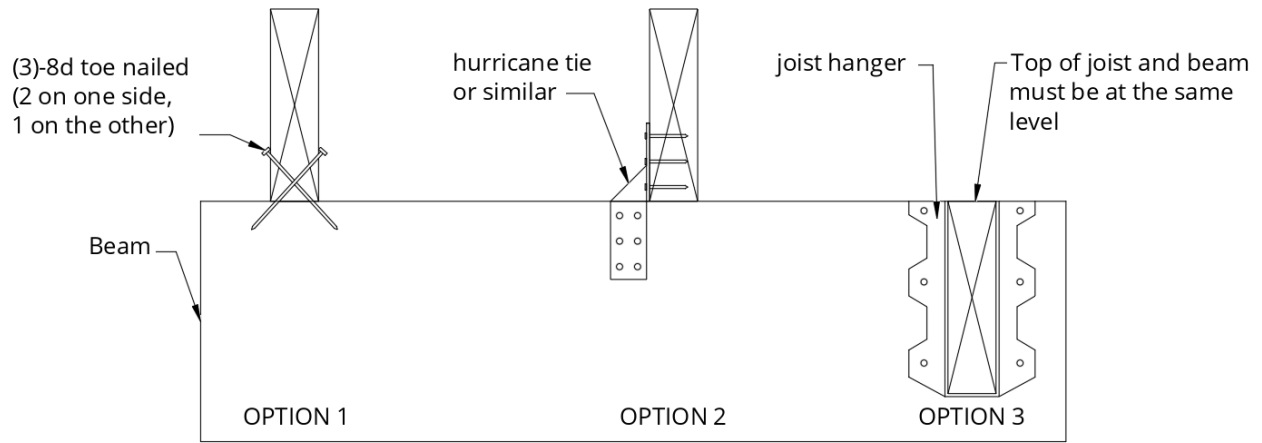

FIGURE 17 - JOIST ATTACHMENT
- Each joist shall be attached to the beam in accordance with Figure 17.
- Joist framing from opposite sides over a bearing support shall lap not less than 3" and shall be fastened together with a minimum of (3) 10d nails.